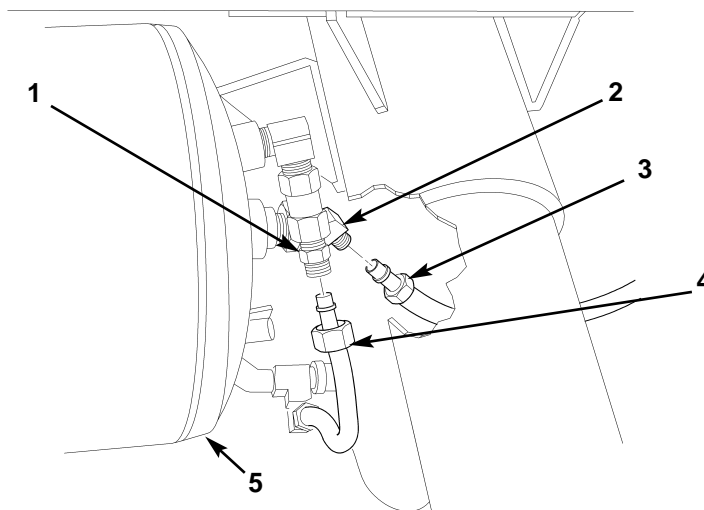

Figure 6. Connecting Tubes to Primary Reservoir.
8. Connect tubes (figure 6, items 3 and 4) to adapter (figure 6, item 1) and elbow (figure 6, item 2) located at front end of primary reservoir (figure 6, item 5).